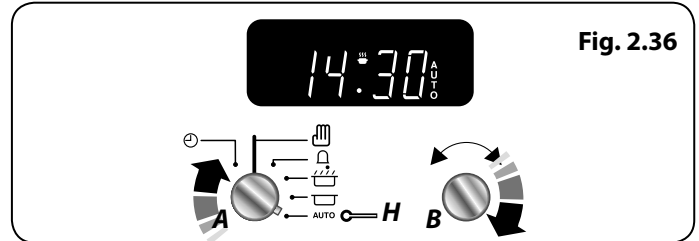

Fig. 2.36
3. Continue to turn the **Adjusting (B)** knob to the amount of time required e.g. 1 minute. The display will show the current time plus the required length of time you have set (Fig. 2.36).
4. Turn the **Timer (A)** knob to the **Auto (H)** setting. The display will show the current time, the Cooking symbol and the word 'AUTO' (Fig. 2.36).